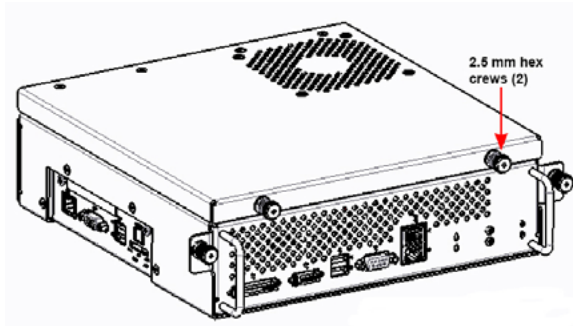

Figure 3-27 Screws Securing Host Module Cover
- 27.2 Loosen two 2.5 mm hex captive screws securing the Host cover (see Figure 3-27), and then open the Host cover.